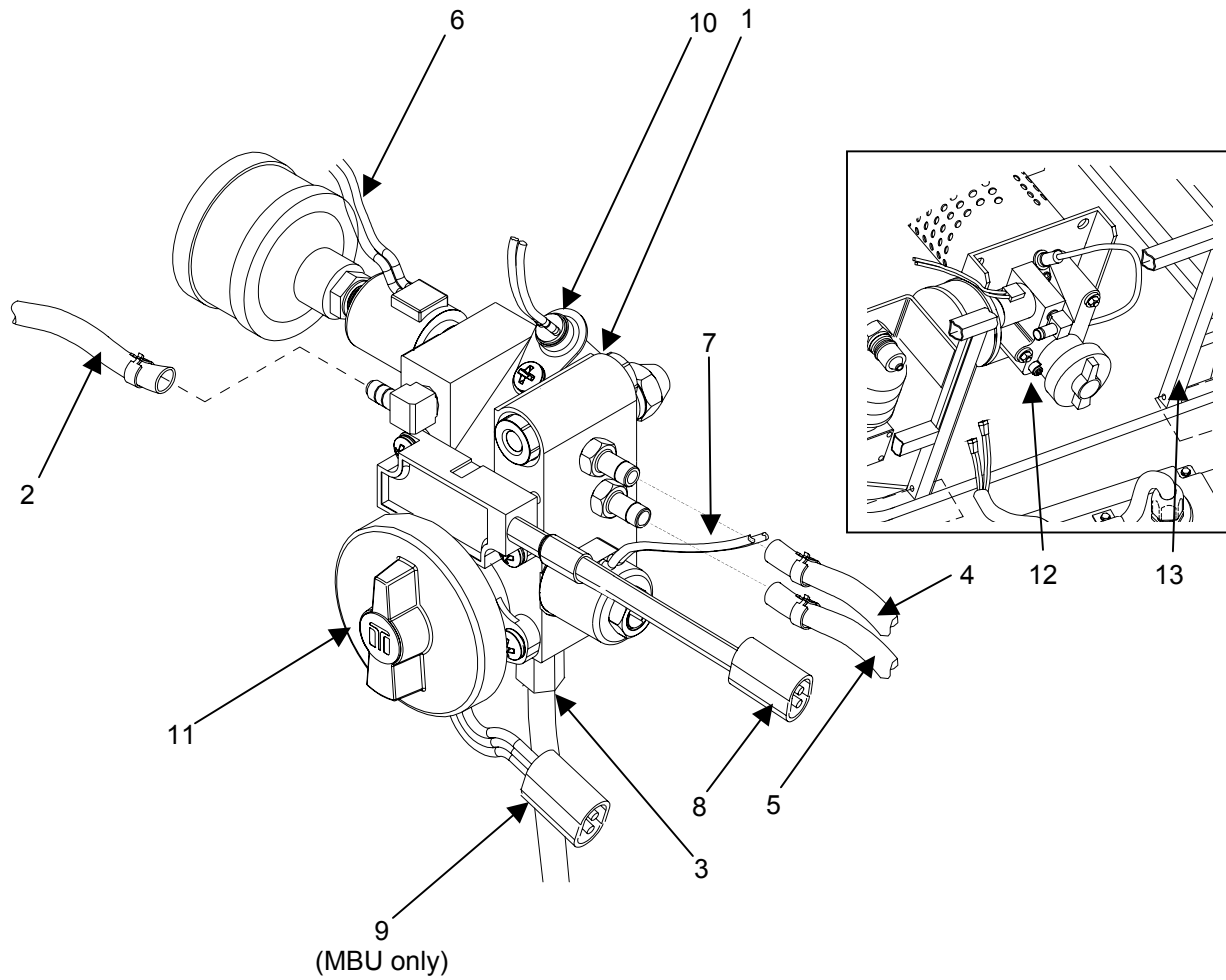

Figure 18. Replace the Fuel Delivery Block Assembly
1. Remove Fuel Delivery Block (**figure 18, item 1**) from the burner tube mounting studs IAW procedures given in WP 0025 00.
2. To replace the entire fuel delivery block assembly (**figure 18, item 1**), disconnect the fuel line (**figure 18, item 2**), fuel feeder line (**figure 18, item 3**) and air hoses (**figure 13, item 4, figure 18, item 5**) from the fuel delivery block assembly.
3. Disconnect the air/fill solenoid harness connector (**figure 18, item 6**) and the fuel shut-off solenoid harness connector (**figure 18, item 7**).
4. Disconnect the flame sensor harness connector (**figure 18, item 8**).
5. Disconnect the Feedback Potentiometer, if fitted (MBU only) (**figure 18, item 9**).
6. Disconnect the Ignitor Assembly (**figure 18, item 10**). Remove the Control Knob (**figure 18, item 11**) and the Ground Wire (**figure 18, item 12**).
7. Remove the fuel delivery block assembly from the MBU frame (**figure 18, item 13**).
8. To install the new fuel delivery block assembly (**figure 18, item 1**), place the assembly in the MBU frame (**figure 18, item 13**) with the control knob (**figure 18, item 11**) facing toward the front of the MBU.
9. Connect the fuel line (**figure 18, item 2**), fuel feeder line (**figure 18, item 3**) and air hoses (**figure 18, item 4, figure 18, item 5**) to the fuel delivery block assembly (**figure 18, item 1**). Note that neoprene hoses are two sizes. Install correct size hose on correct size fitting.
10. Connect the air/fill solenoid harness connector (**figure 18, item 6**) and the fuel shut-off solenoid harness connector (**figure 18, item 7**).
11. Connect the Feedback Potentiometer, if fitted (MBU only) (**figure 18, item 9**).
12. Connect the flame sensor harness connector (**figure 18, item 8**). This will not be connected after replacement with a MBU V3 fuel delivery block.
13. Install the Ground Wire (**figure 18, item 12**).
14. Install the Fuel Delivery Block (**figure 18, item 1**) onto the burner tube mounting studs IAW procedures given in WP 0025 00, "Remove/Install the Fuel Delivery Block".